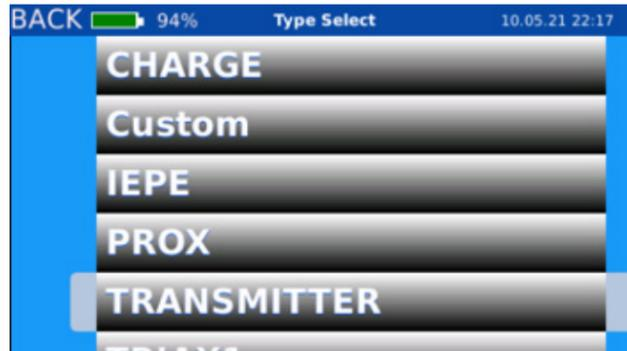
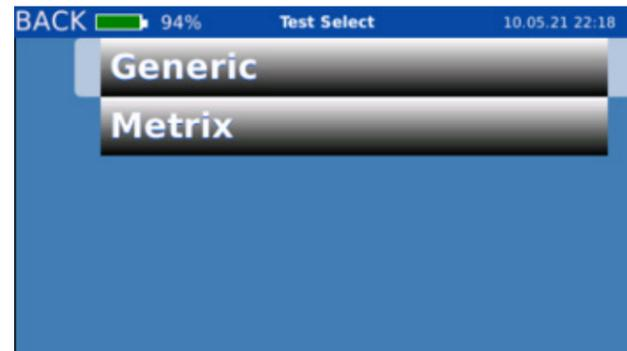

Figure 35. Select sensor type
Figure 36. Select manufacturer
- Select **Transmitter** as the sensor type and select the manufacturer (*Figure 35* and *Figure 36*).